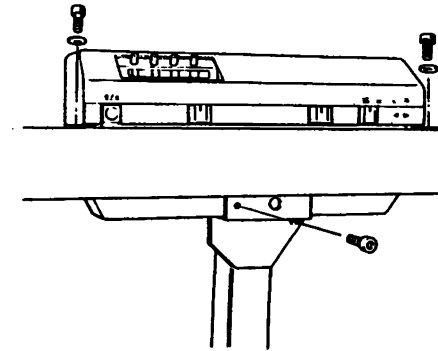

Fig. 85
- (1) Insert the driving shaft into the hole of driving pulley with adjusting the position and fasten with three bolts. (Refer to Fig. 85, 86)